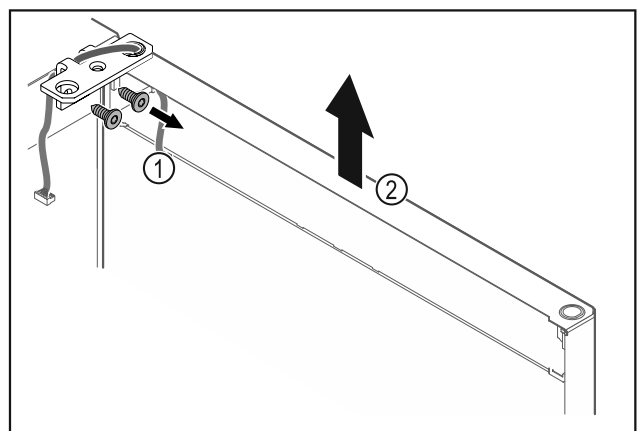

Fig. 20
- ▶ Unscrew the hinge Fig. 20 (1).
- ▶ Lift the door with the hinge straight up by Fig. 20 (2) roughly 200 mm and take it off.